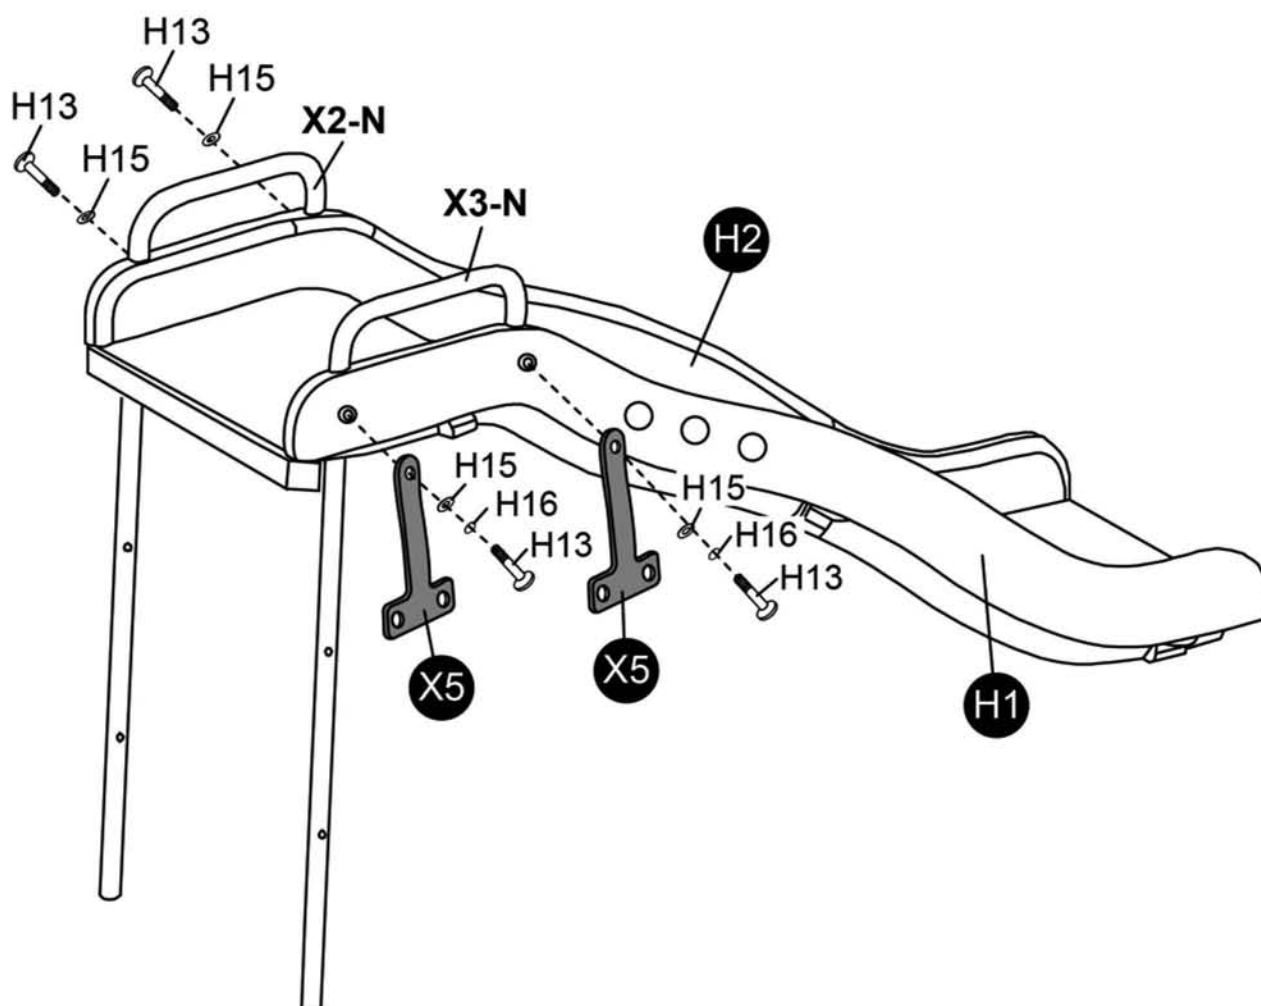

FIGURE 20
- Secure Metal Bracket (X5) together with H1 and X3-N using H15, H16 and H13 as shown in FIGURE 20.